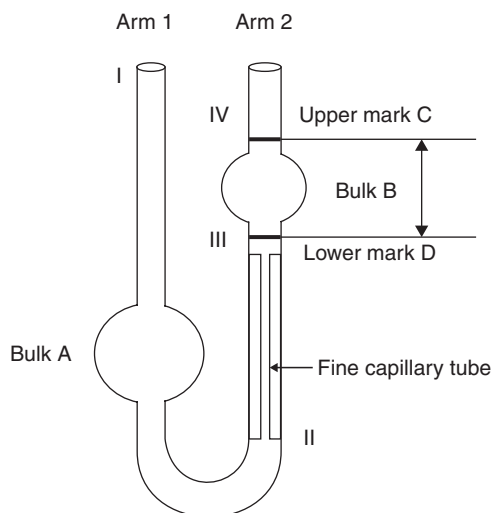

Figure 1 Ostwald viscometer.
7. Now fill the viscometer with solution through arm 1 till it reaches to the mark II as shown in Figure 1 using syringe. Now pull the liquid using syringe so that liquid flow through fine capillary tube till it reaches to the mark above IV. Remove the syringe attached to arm 2 and observe the upper meniscus of the liquid. When the meniscus is aligned with mark "IV", start the stop watch to measure time. Measurement terminates when the meniscus is completely aligned with the mark III and stop the stop watch. Record the total time taken by each sample.